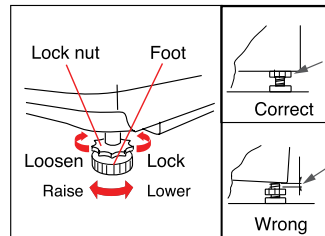

Fig. 9
- If the ground surface where the washing machine is located is uneven, it may require levelling to stabilise. Using the adjustable foot at the front right hand side of the machine, twist anti-clockwise to increase the leg height or clockwise to lower the leg height (Fig. 9).